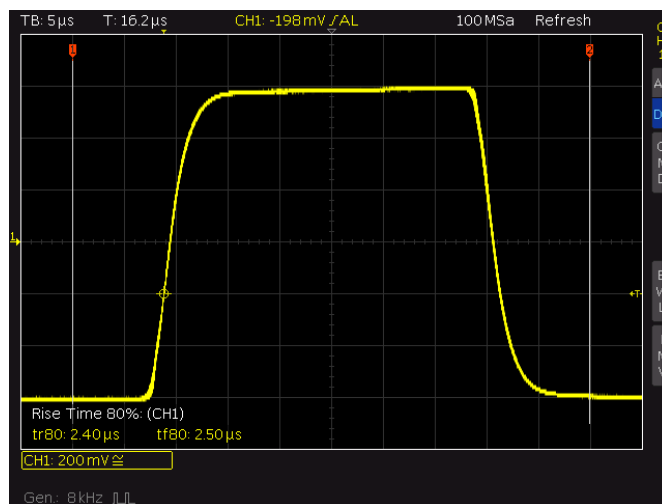

Fig.3-5: Automated cursor measurement.
► Select *Rise Time 80%* and set the cursor so that the rise and fall times can be measured simultaneously; see Fig.3-5.